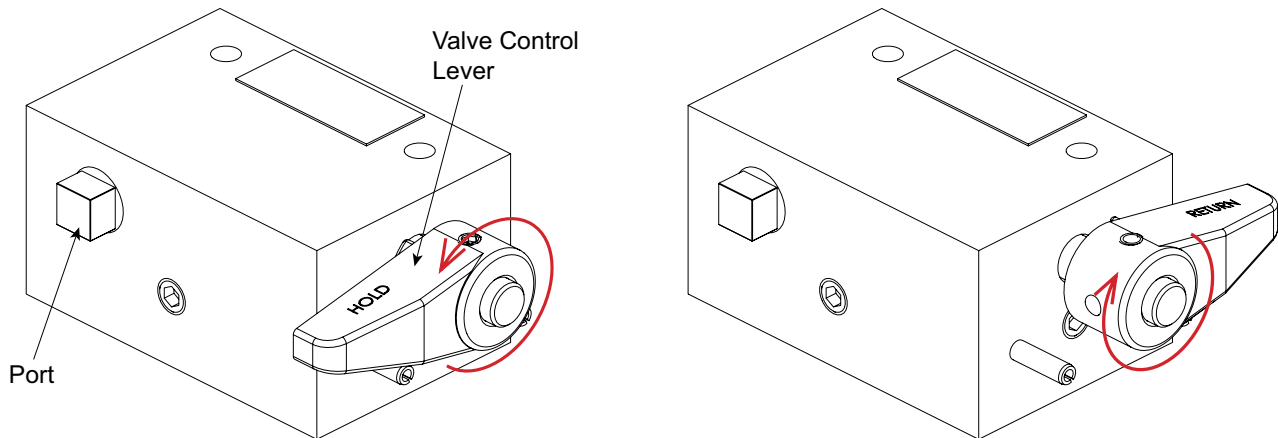

Fig. 10. 2P,2W Manual Valve (CCW and CW)
- To HOLD pressure, turn the valve control handle counterclockwise (CCW), (Refer to figure 10).
- To retract the cylinder, turn the valve control handle clockwise (CW) slowly, (Refer to figure 10).